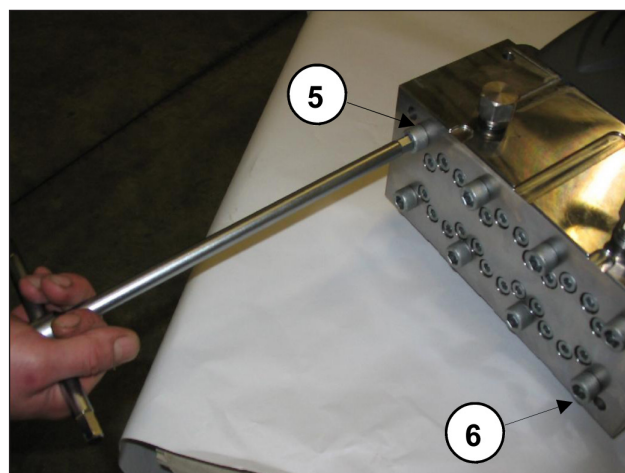
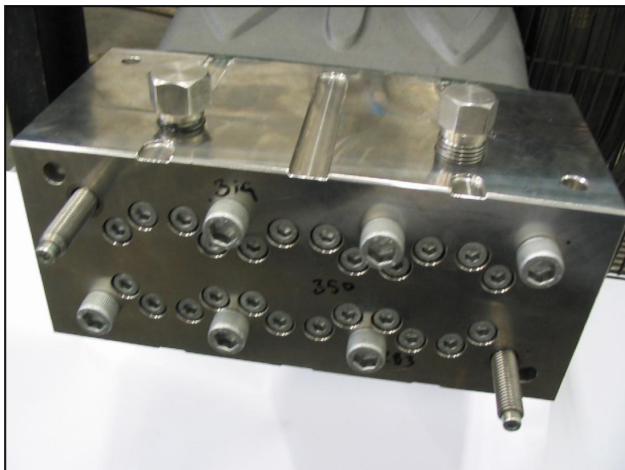

Fig. 17
Fig. 18
- Loosen the head fixing screws M12x260 No. 5 and No. 6 as indicated in Fig. 17 replacing them with service screws-plug (code 27508200) as indicated in Fig. 18. Then take out the remaining screws.